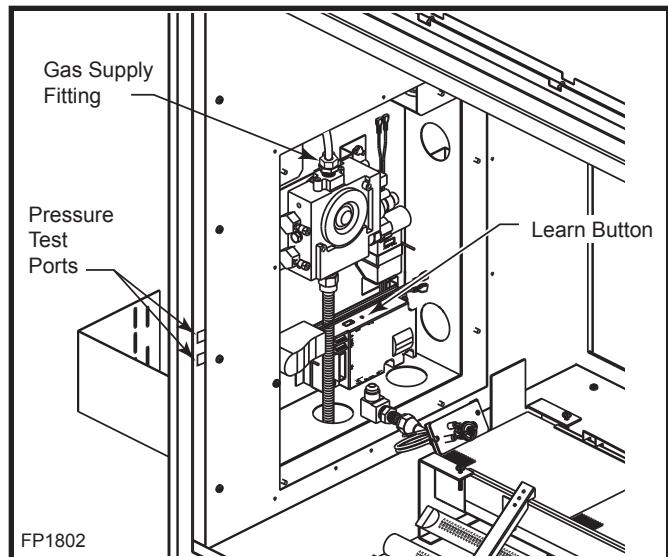
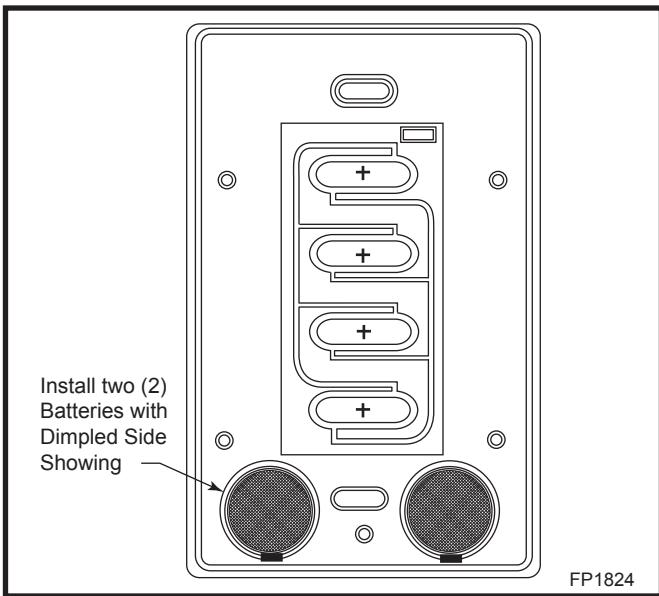

Fig. 8 Connect gas supply to valve.
Fig. 9 Inside view of wireless wall switch.
10. Connect the gas supply to the valve. (Fig. 8) Be sure to use a back-up wrench when tightening supply fitting.
13. Insert the supplied four (4) "AA" batteries into the battery holder. Be sure to note correct polarity for each battery.
18. Remove the battery door on the back of the hand held remote control and install two (2) supplied "AAA" batteries. Be sure to note correct polarity. Replace battery door.
- 19.If you choose to install the optional wireless wall mounted remote control (Part No. 20012267), install two (2) button batteries provided with the remote control by removing four (4) screws holding the back cover in place. Carefully remove the circuit board. Install batteries with dimpled side showing. (Fig. 9) Carefully replace circuit board and back cover. Tighten screws.
- 20.Locate the learn button on the main module. (Fig. 8) Press and release the learn button using a pencil point. There will be a beep sound from the module. Then press any key on the hand-held remote control transmitter. Once the module's internal receiver accepts the transmitter code, there will be a series of confirming beeps. If you are using the optional wall mountable remote control transmitter, press the learn button on the main module a 2nd time. There will be a beep sound from the module. Then press the ON button on the wall mountable transmitter. Once the module's internal receiver accepts the transmitter code, there will be a series of confirming beeps.
NOTE: If you need to test the inlet pressure and/or manifold pressure, there are two (2) test ports available along the right side front edge between the firebox side and outer casing. The upper test port is inlet pressure. The lower test port is manifold pressure. (Refer to Figure 8)